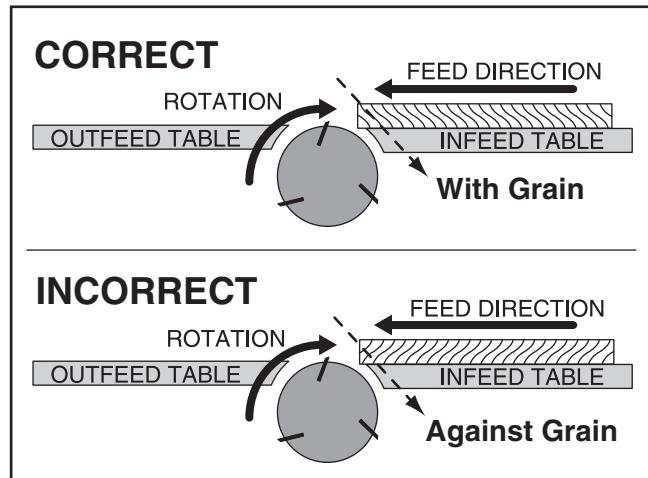

Figure 18. Proper grain alignment with cutterhead.
- Jointing and surface planing with the grain produces a better finish and is safer for the operator.** Cutting with the grain is described as feeding the stock on the jointer so the grain points down and toward you as viewed on the edge of the stock (see **Figure 18** below).